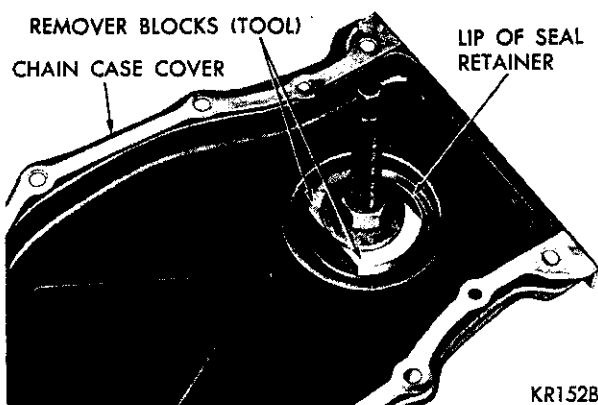

Fig. 19—Remover Blocks Expanded to Puller Position
(1) Position remover screw of Tool C-3506 through case cover, inside of case cover up. Position remover blocks directly opposite each other, and force the angular lip between the neoprene and flange of seal retainer.
(2) Place washer and nut on remover screw. Tighten nut, forcing the blocks into the gap to a point of distorting the seal retainer lip (Fig. 19). This is important, **remover is only positioned at this point.**
(3) Place sleeve over retainer and place removing and installing plate into the sleeve.